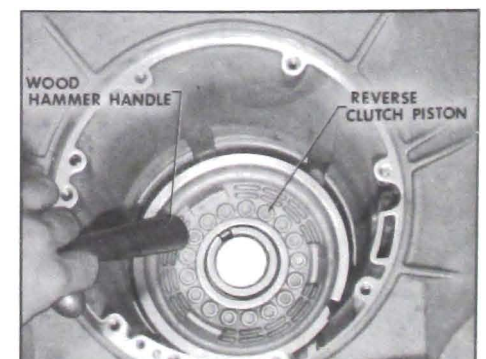

Figure 5-296
3. With transmission in vertical position install the reverse clutch piston into case. Tap piston with hammer handle to make certain piston is seated in case. See Figure 5-296.